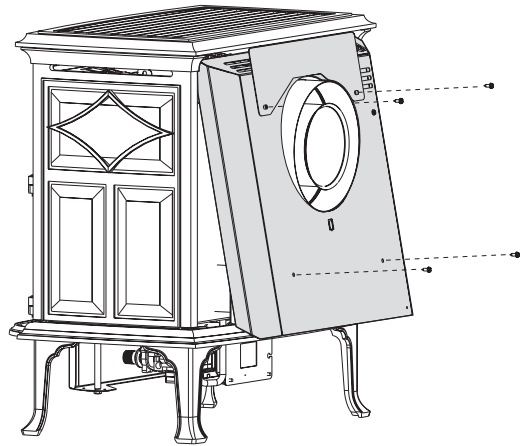

Figure 13. Remove rear shroud to access the Adaptor Collar.
- **Vertically terminated vent runs require 4/6 vent pipe.** Use Vertical Vent Adaptor Kit 157674. See figs. 13 and 14.